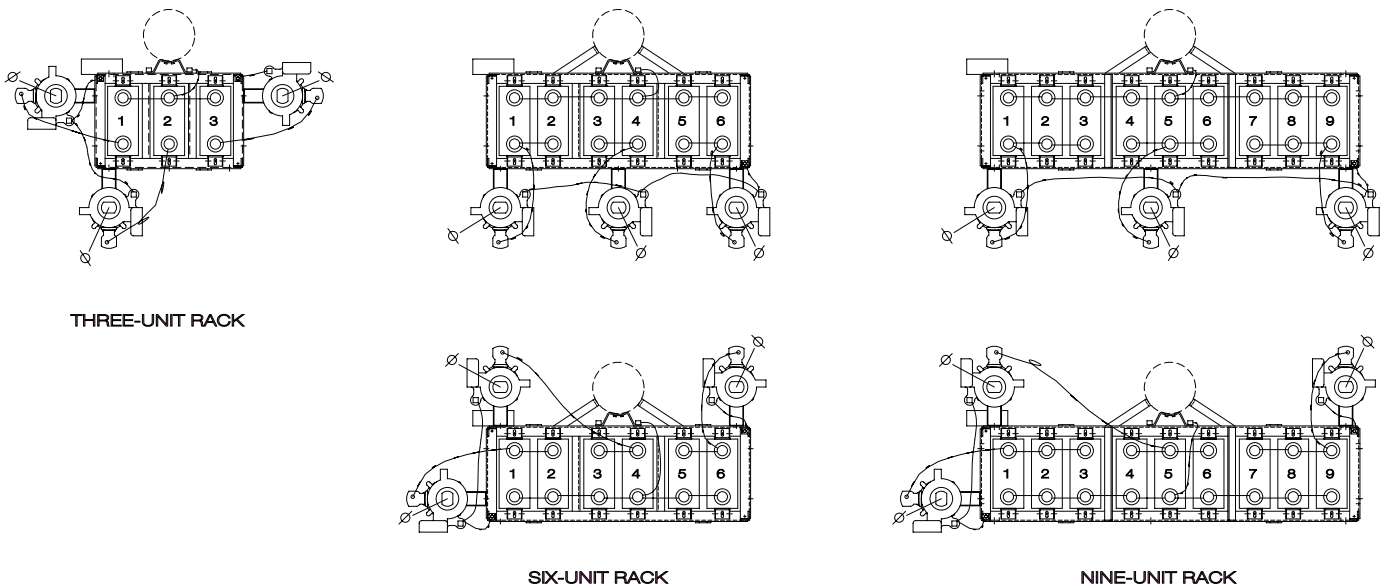

Figure 1.
4. Check for proper wiring of the capacitor units. Refer to Figure 1.